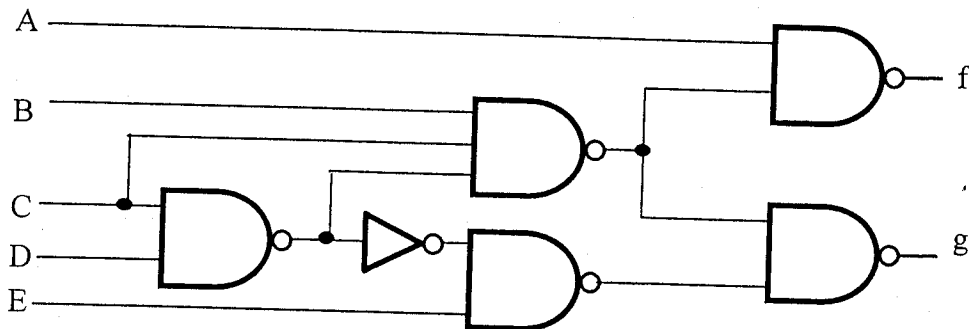

Fig 1a Asynchronous circuit
- e) Define, with illustration, the meaning of a static-1 hazard. Consider the circuit of figure 1a. Explain whether any part of this circuit exhibits a hazard. If so, propose how the hazard may be removed. (6 marks)